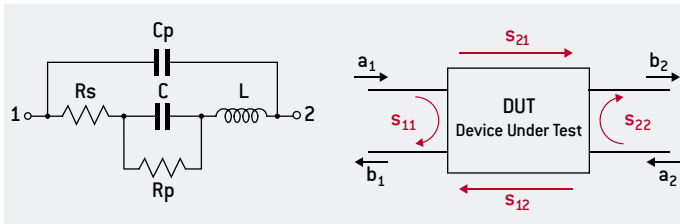
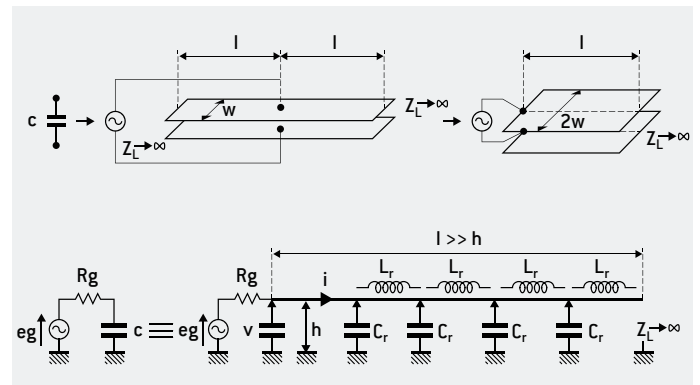
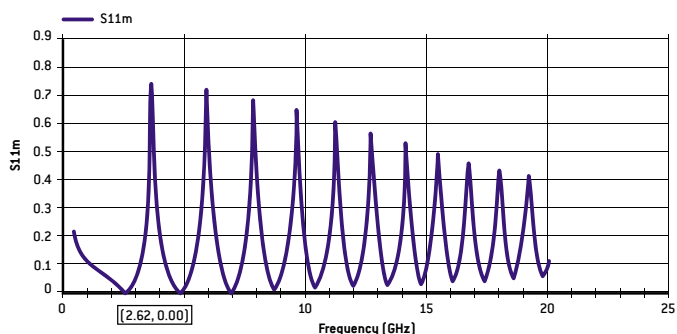
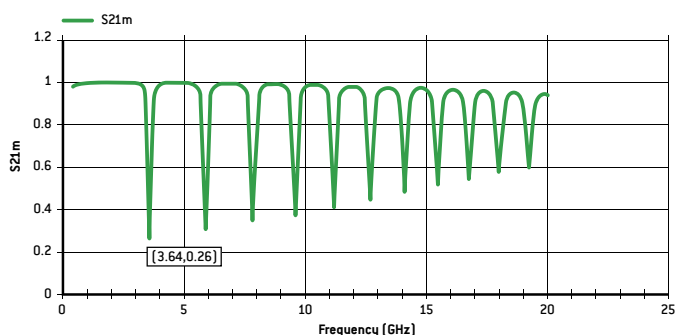

Figure 1: Equivalent Model
Figure 7: Transmission line model of a Single Layer Capacitor
Figure 4: S11curve for a 251SHF150 from EXXELIA ABC software
Figure 5: S21curve for a 251SHF150 from EXXELIA ABC software
The equivalent model for a capacitor is usually defined by the figure 1 where:
The variation of S11 (figure 4) and S21 (figure 5) show the different resonance frequencies SRF (serial resonance frequency) and PRF (parallel resonance frequency)
For example for a 251SHF150 (size 0805 and capacitance 15pf): SRF=2.64 GHz and the ESR at this frequency is 0.200 ohm (figure 5)
- The PRF is associated with the parasitic capacitance Cp defined in figure 1. Assuming that Cp << C, then:
The PRF could be determined by the S21 measurements (figure 5)
The lumped model shown in Fig. 1 explains only the existence of one serial self-resonant frequency and one parallel self-resonant frequency, consequently, the lumped model is unable to explain why real measurements exhibits a double infinity of self-resonant frequencies (see figures 4, 5 & 6).
It is currently admitted [Ref. 1] that the lumped model shown in Fig. 1 is convenient only for frequencies that are lower than roughly the half of the first SRF. For frequencies close or above the first SRF, it is mandatory to consider the distributed model or transmission line model [Ref. 1].
This distributed model can be established more easily with the equivalent circuit of a Single Layer Capacitor (SLC) shown in Fig. 7:
After examination of Fig. 7, one can see that a Single Layer Capacitor can be modeled by a transmission line with an open termination that is currently called an "open stub".
Consequently, for predicting and understanding the behavior of a capacitor at frequencies that are close or above the first SRF, the lumped model (shown in Fig. 1) is not applicable and must be replaced by the distributed model or transmission line model (shown in Fig. 7).